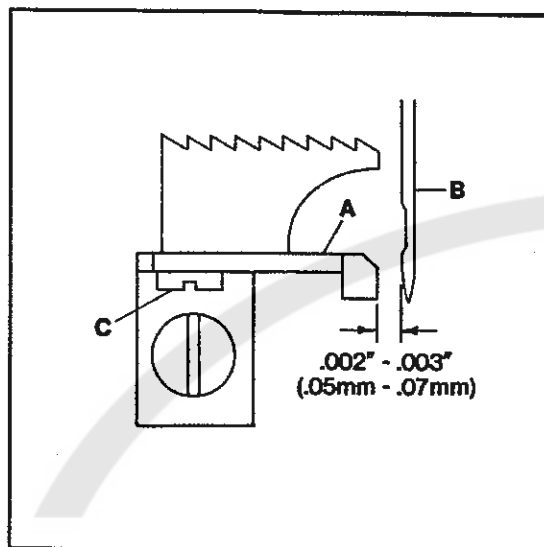

FIG. 17
Set rear needle guard (A, Fig. 17) so it clears the first (left) needle (B) by .002" to .003" (0.05mm to 0.07mm). Check the guard position to the other needles to avoid pinching. Loosen screw (C) and reposition guard (A) as necessary. Tighten screw (C).